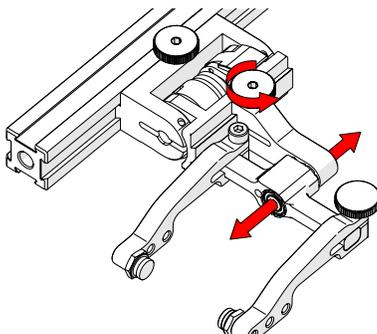

Fig. 150 - Adjust swing arm
3. Use swing arm knob to position the swing arm (Fig. 150).